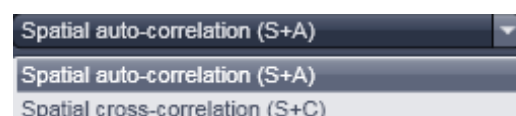

Fig. 422 Correlation drop down menu
- The correlation to be computed can be selected from the **Correlation** pull down menu (Fig. 422). For one channel recordings, only **Spatial auto-correlation (S+A)** is available, for a two channel recording in addition **Spatial cross-correlation (S+C)**.